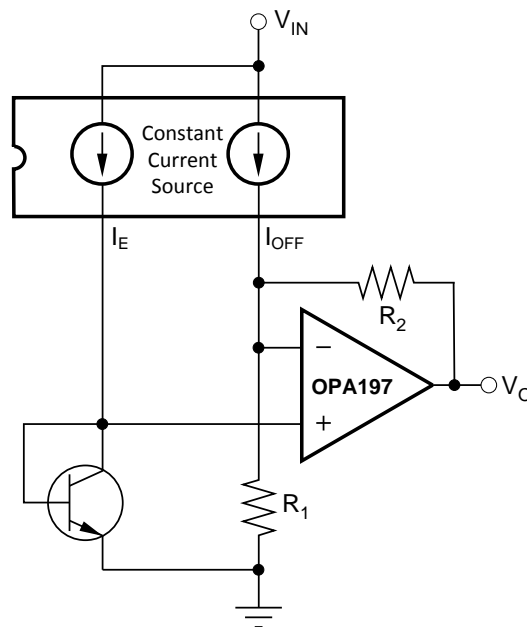
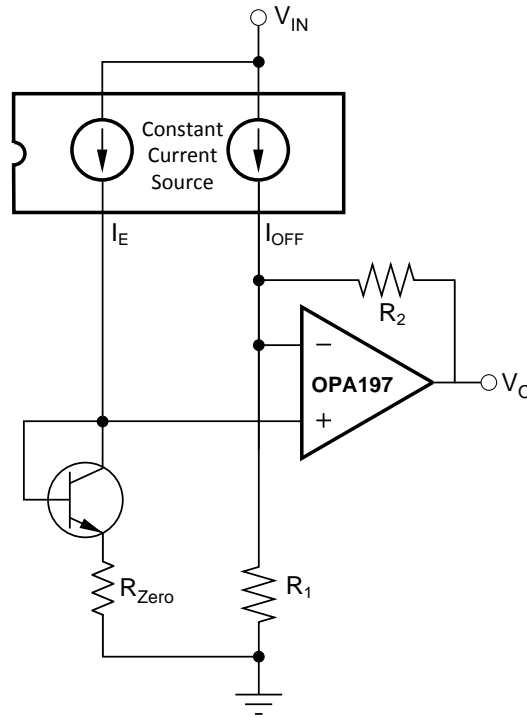
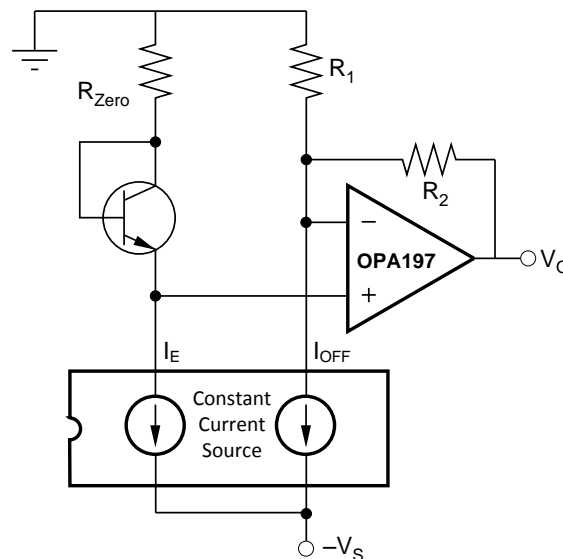

Figure 4. Simple Diode-Based Temperature Measurement Circuit
Figure 5. Temperature Measurement Circuit With Independent Gain and Offset Adjustment
Figure 6. Positive Temperature Measurement Circuit with Negative Supply
Figure 4 shows the simplest diode-based temperature measurement system. One of the current sources is used for diode excitation. The other current source is used for offsetting. One disadvantage of this circuit is that the span (GAIN) and zero (OFFSET) adjustments are interactive. You must either accept the initial errors or use an interactive adjustment technique. Another possible disadvantage is that the temperature to voltage are inversely proportional. In other words, a positive change in temperature results in a negative change in output voltage. If the output is to be processed in a digital system, neither of these limitations may be a disadvantage.
- $V_{BE25}$  = Diode voltage at 25°C (V)
- $V_o$  = Output voltage of circuit (V),
- $\delta V_o / \delta T$  = Desired output voltage change for given temperature change (V/°C) (Note: Must be negative for the Figure 4 circuit.) (3)
- $\delta V_o / \delta T$  = Desired output voltage change for given temperature change (V/°C) (Note: Must be negative for the Figure 4 circuit.) (4)
If independent adjustment of offset and span is required consider the circuit shown in Figure 5. In this circuit, a third resistor,  $R_{ZERO}$  is added in series with the temperature-sensing diode. System zero (offset) can be adjusted with  $R_{ZERO}$  without affecting span (gain). To trim the circuit adjust span first. Either  $R_1$  or  $R_2$  (or both) can be used to adjust span. Similar to the circuit in Figure 4, this circuit has the disadvantage that the temperature to voltage conversion is also inverting.
The following relationships can be used to calculate nominal resistor values for the Figure 5 circuit.
For a noninverting temperature to voltage conversion, consider the circuit shown in Figure 6. This circuit is similar to the circuit in Figure 5, except that the amplifier is connected to the low side of the diode. With this connection, the temperature to voltage conversion is noninverting. As before, if adjustment is required, adjust span with  $R_1$  or  $R_2$  first, then adjust zero with  $R_{ZERO}$ . A disadvantage of this circuit is that it requires a negative power supply.
The following relationships can be used to calculate nominal resistor values for the Figure 6 circuit.
For a single-supply noninverting temperature to voltage conversion, consider the Figure 7 circuit. This circuit is similar to the circuit in Figure 5, except that the temperature-sensing diode is connected to the inverting input of the amplifier and the offsetting network is connected to the noninverting input. To prevent sensor loading, a second amplifier is connected as a buffer between the temp sensor and the amplifier. If adjustment is required, adjust span with  $R_1$  or  $R_2$  first, then adjust zero with  $R_{ZERO}$ .
For differential temperature measurement, use the circuit shown in Figure 5. In this circuit, the differential output between two temperature-sensing diodes is amplified by a two-op-amp instrumentation amplifier (IA). The IA is formed from the two op amps in a dual OPA1013 and resistors  $R_1$ ,  $R_2$ ,  $R_3$ ,  $R_4$ , and  $R_{SPAN}$ .  $R_{SPAN}$  sets the gain of the IA. For good common-mode rejection,  $R_1$ ,  $R_2$ ,  $R_3$ , and  $R_4$  must be matched. If 1% of resistors are used, CMR is greater than 70 dB for gains over 50 V/V. Span and zero can be adjusted in any order in this circuit.